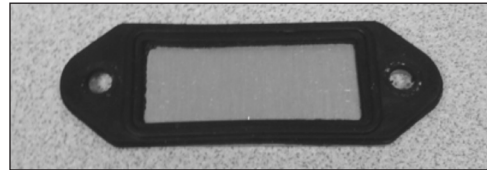

Figure 9.5 Example - Gasket placed on temperature probe cover
5. Once the new probe has been installed, place a new gasket onto the TC probe cover as shown in Figure 9.5 Example and attach the temperature probe cover by using a 1/8" Allen wrench to screw the two button head cap screws. Torque screws to 10-12 inch pounds.